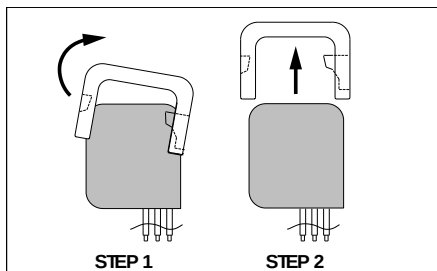

Figure 1
10. Rotate the compressor to gain access to the power plug. Remove the power plug retaining clip, by pulling out gently on the left side (to clear the shorter left locking tab and rotate the right locking tab) and then slide up and off the plug. Pull the plug out and away from the compressor to remove. Disconnect the ground lead / terminal from the compressor circle fence. See Figure 1 below.